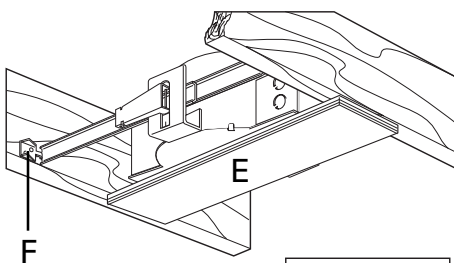

Figure 2
2. Secure a piece of plywood (E) to temporarily span the bottom of the joists to support the fixture housing while attaching the bar hangers (F) to the joists. This will position the housing correctly for drywall installer to provide pilot hole (G) to locate fixture after ceiling has been installed. Refer to Figure 2.
5. Loosen (2) 5/16" screws (A) 180° apart, allowing fixture to drop down so bottom edge of plaster flange will be slightly above edge of ceiling material.